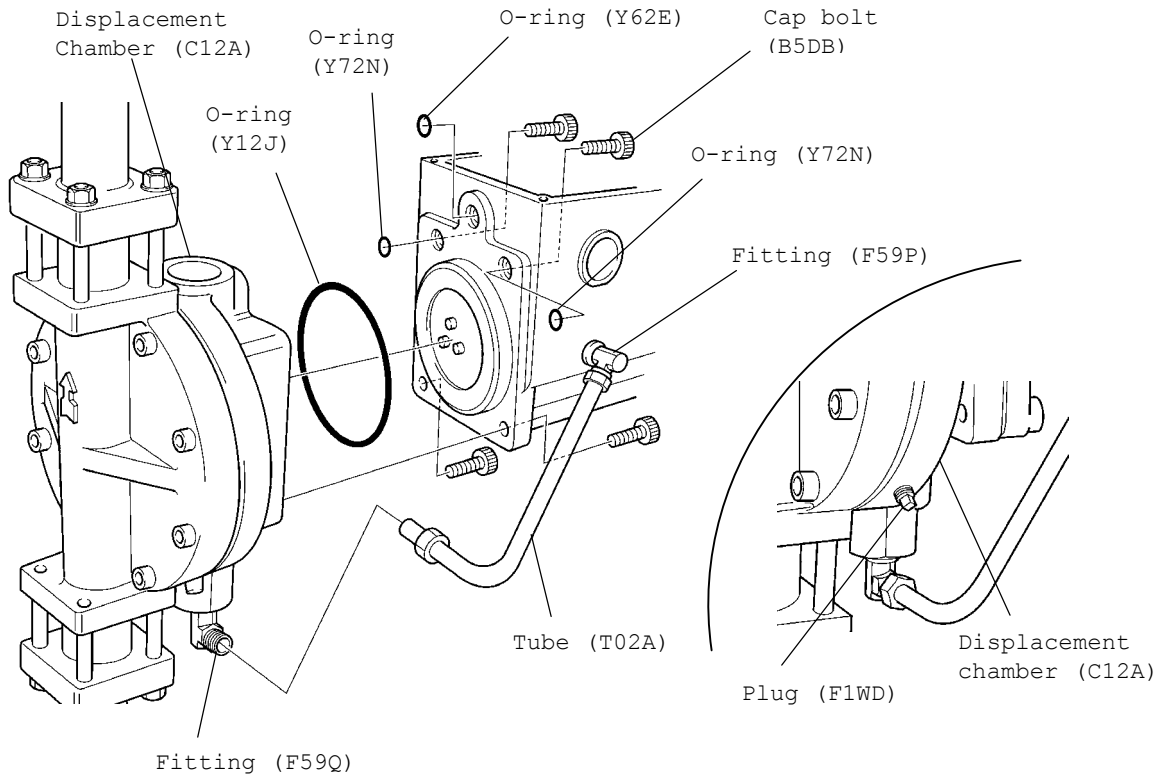

Fig. 7-15 Removal of displacement chamber (DV-6-800)
- (7) Confirm the fit of O-ring, attach the displacement chamber. Refer to Fig. 7-15.
- (8) Connect the tube firmly to the fitting. Refer to Fig. 7-15.